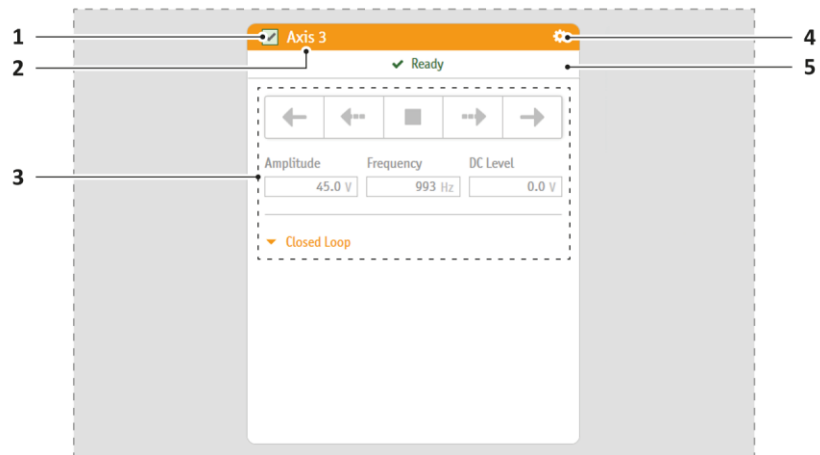

Figure 12 Axis tile, operation view
- To open the configuration view of the axis tile, click on the configuration link (Figure 12/4) in the header of the tile's operation view.
The axis status bar (Figure 12/5) indicates the current status of the axis. The following states are possible:
- To activate an axis, check the axis activation checkbox (Figure 12/1).
- To deactivate an axis, uncheck the axis activation checkbox (Figure 12/1).